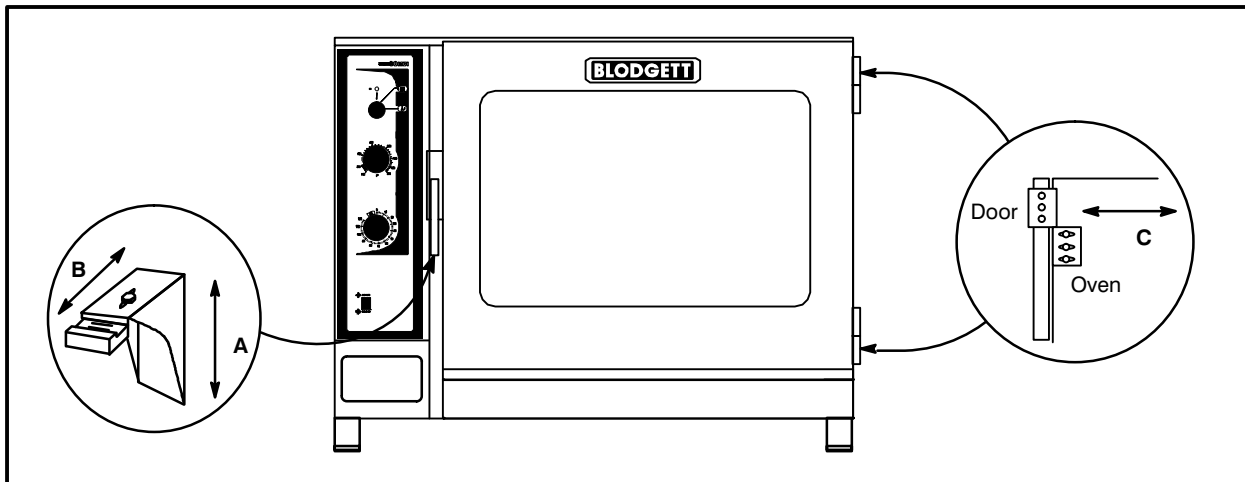

Figure 8
1. Adjust up and down by loosening the two bolts holding the catch to the face of the appliance. See Figure 8 (A).
4. Adjust in and out by loosening the bolt on top of the catch. See Figure 8 (B).
2. Adjust hinges so that the door back and the appliance face are parallel. See Figure 8 (C).